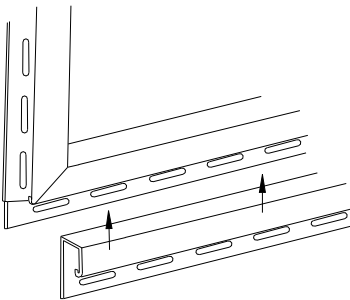

Figure 3.
- Cut and install J channels as shown (Fig. 3).